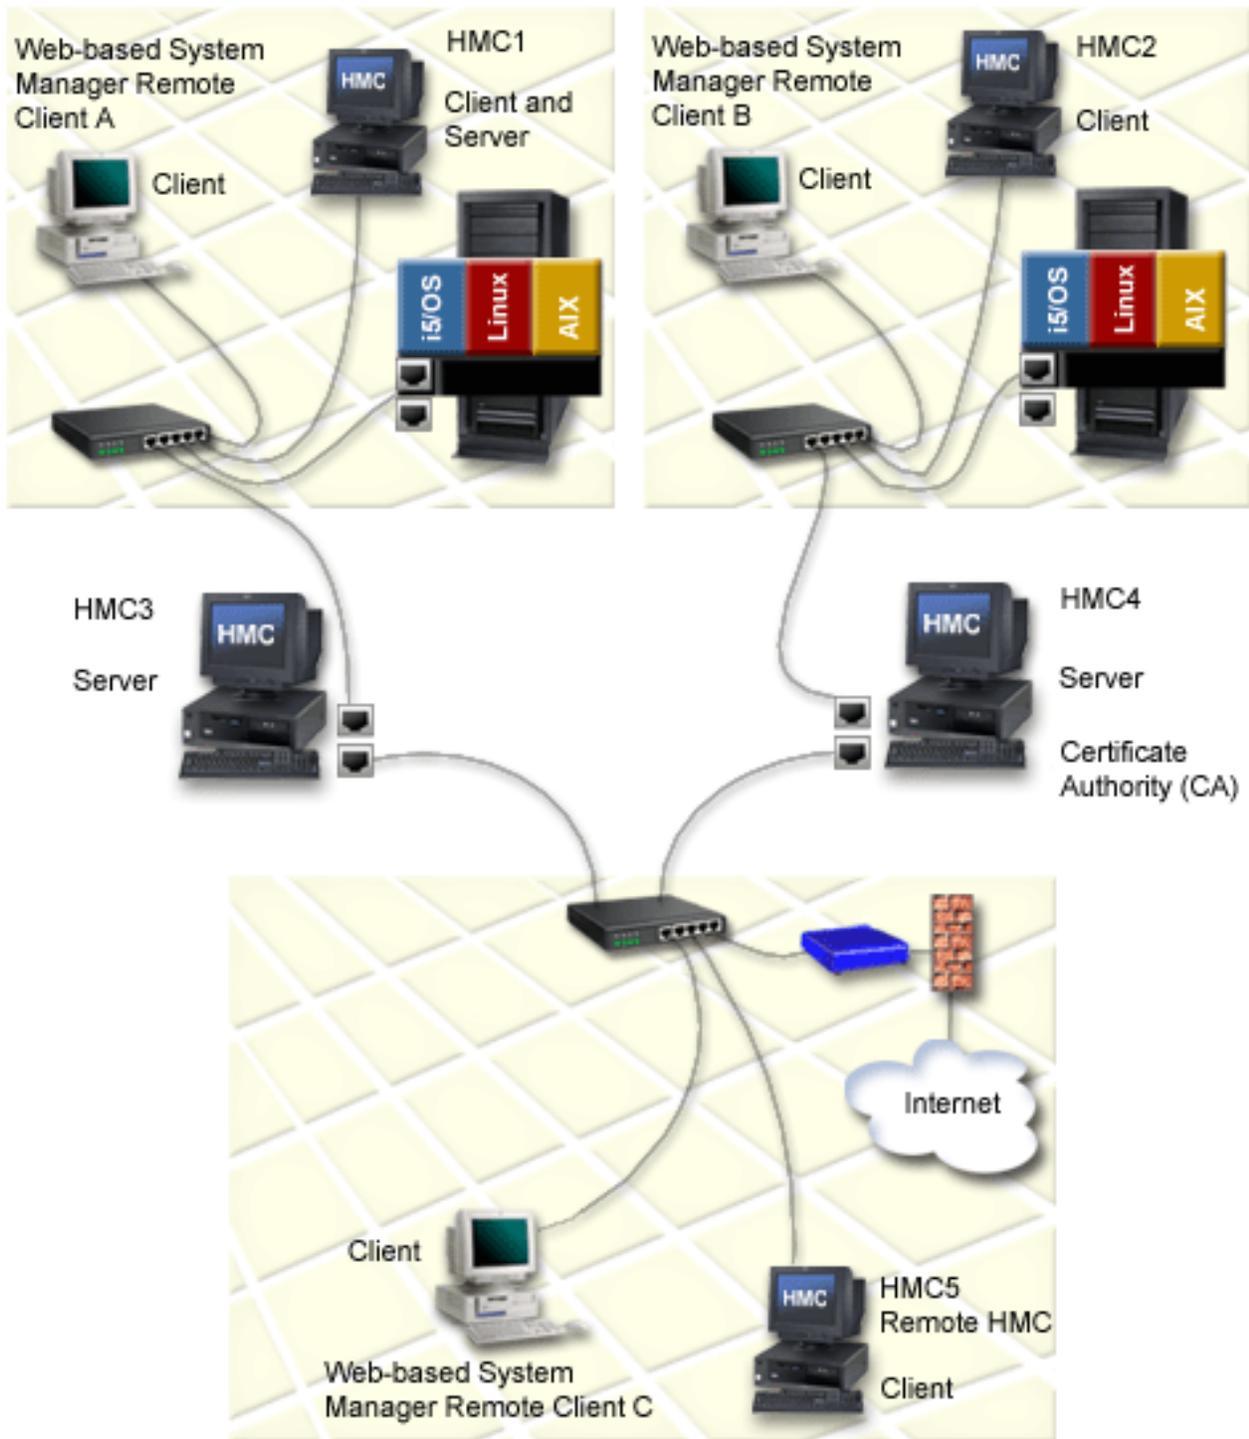

Figure 6. System Manager Security servers and clients
A **Certificate Authority (CA)** is a trusted central administrative entity (a local HMC in this situation) that can issue digital certificates to clients and servers (HMC4 in Figure 6 on page 20). The trust in the CA is the foundation of trust in the certificate as a valid credential. A CA uses its private key to create a digital signature on the certificate that it issues to validate the certificate's origin. Others, such as System Manager clients, can use the CA certificate's public key to verify the authenticity of the certificates that the CA issues and signs.
A **server** is a an HMC you want to access remotely. In Figure 6 on page 20, HMCs 1, 3, and 4 are servers. A **client** is a system from which you want to access other HMCs remotely. In Figure 6 on page 20, Web-based System Manager Remote Clients A, B, and C, and HMCs 1, 2, and 5 are clients. As shown in Figure 6 on page 20, you can configure multiple servers and clients in your private and open networks.
An HMC can be multiple roles simultaneously. For example, an HMC can be a client and a server such as HMC1 in Figure 6. An HMC can also be a CA, server, and client at the same time.